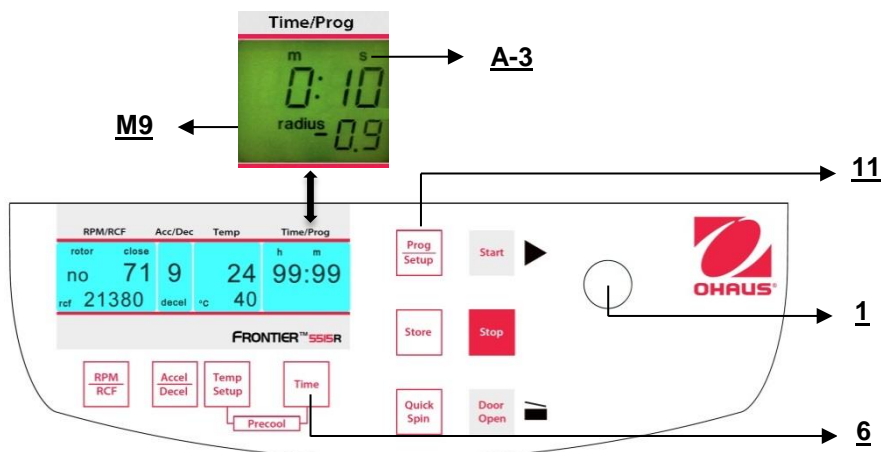

Figure. 21.
Close the lid, then press the key **"Time"** (6) (refer to figure 21) and the key **"Prog/Setup"** (11) at the same time and hold them.